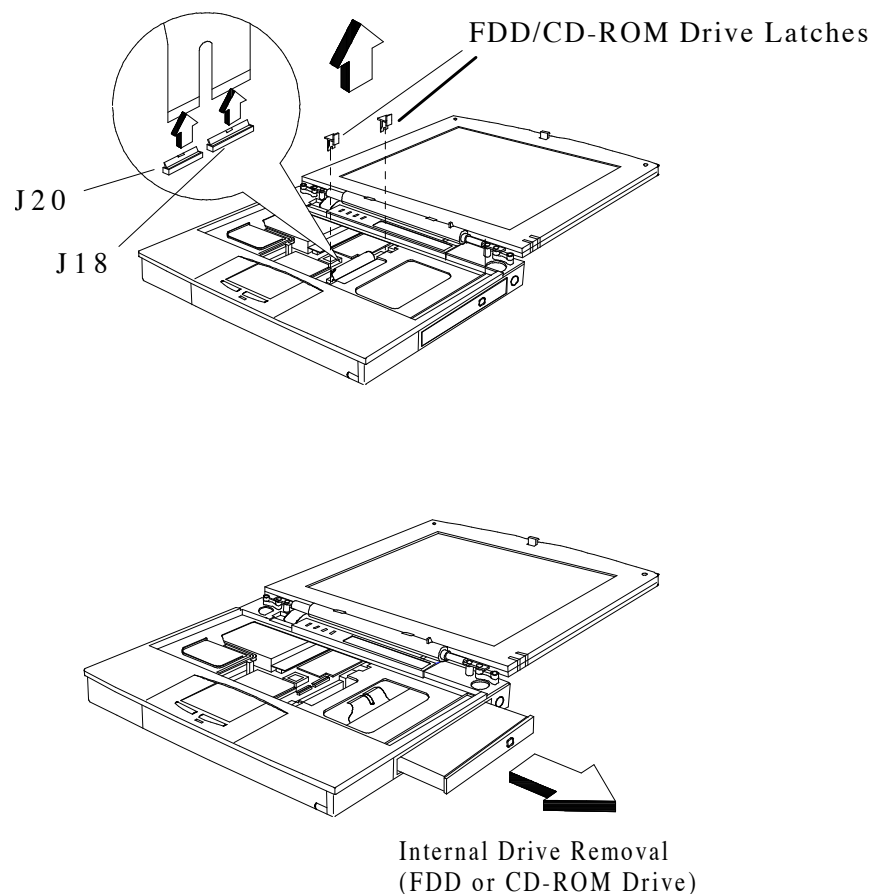

Figure 6-11 Removing/Replacing Internal Drive (FDD or CD-ROM) (60x Series)
5. Remove the FDD/CD-ROM Module Latches as shown in Figure 6-11 and pull out the internal drive (store in an anti-static bag for ESD protection).